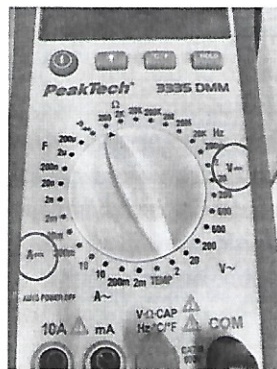

Fig. 5. The multimeter, in this case, will always be used in direct current (in red) both to measure electric current and voltage.
-The magnitudes I and V can be measured in both alternating current (AC) and direct current (DC). In this practice, we will only work with direct current, so the wheel of the multimeter, regardless of what we measure with it, must always be set to the direct current symbol (see Fig. 5).